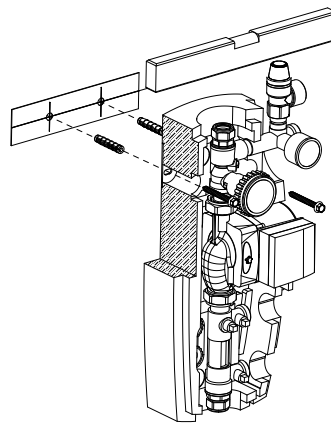

Fig. 1
6. Lay the station on the wall and fix it with the screws, with which the station is equipped to (see fig. 1).